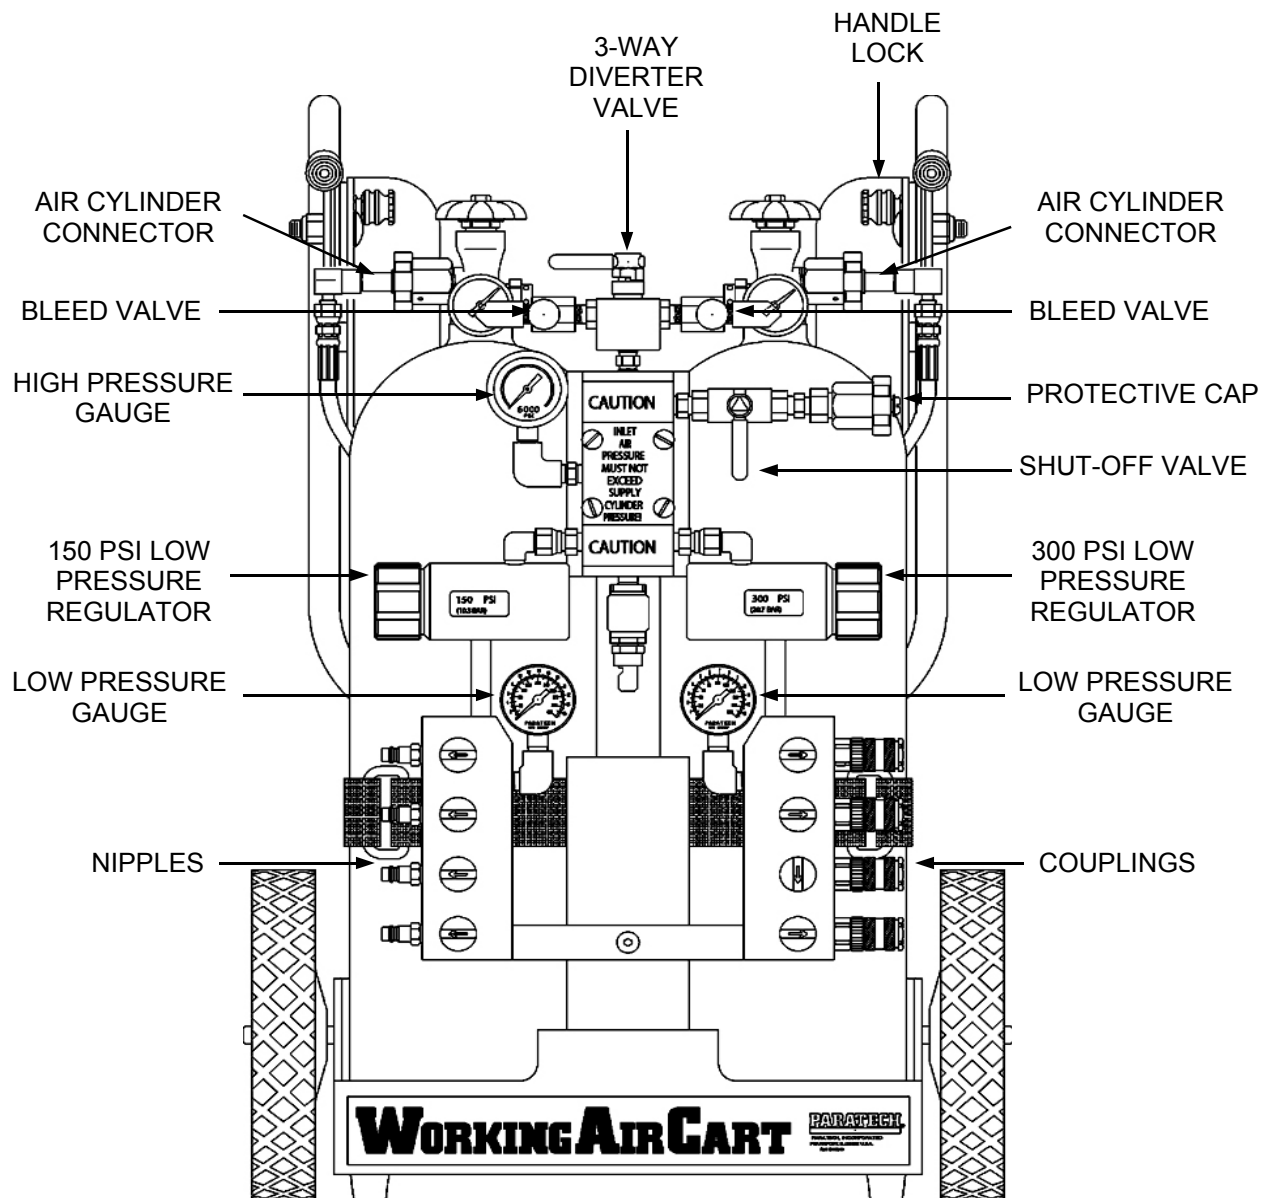

Figure 2-1.
a. Remove all dust, dirt, oil, or grease from the couplings, nipples, and air cylinder connectors (see figure 2-1). Do not use the working air cart without first cleaning off any contaminants.
c. Swing the cart bar handle by releasing two (2) lock pins. This will accommodate personnel of varying heights to prevent inadvertent contact between the cart and the operator during transport to the working site.